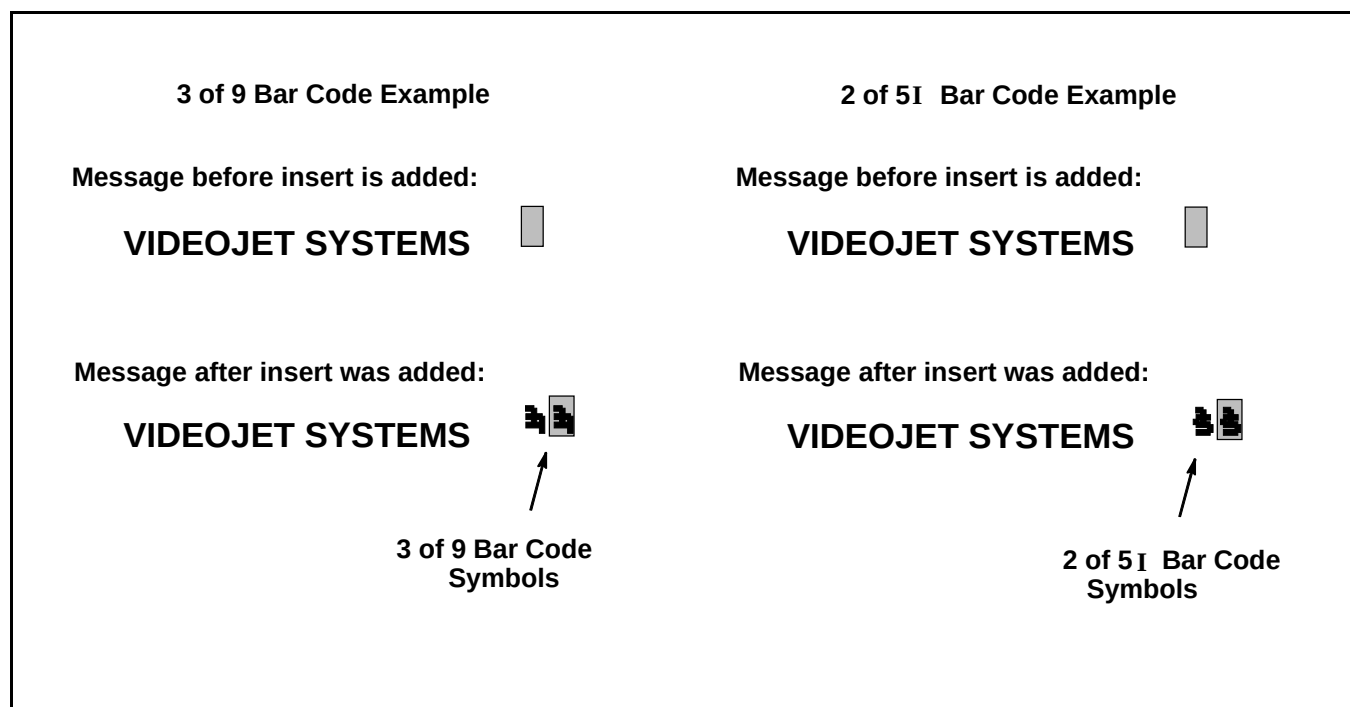

Figure 6-49. Messages with Bar Code Inserts
- To insert a 3 of 9 bar code, press **F2** to select <INSERT 3 OF 9>. Two 3 of 9 bar code symbols will appear in the message. Refer to Figure 6-49
- To insert a 2 of 5I bar code, press **F3** to select <INSERT 2 OF 5I>. Two 2 of 5I bar code symbols will appear in the message. Refer to Figure 6-49.